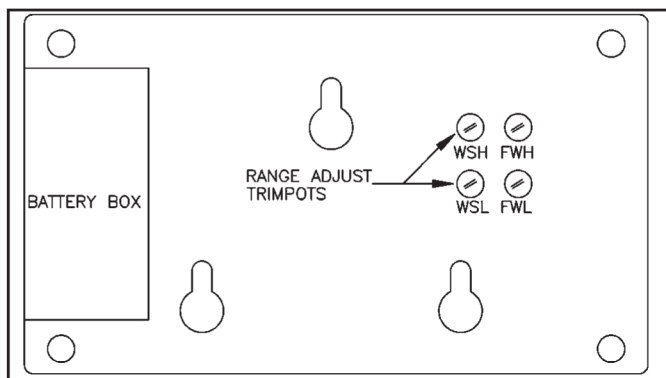

Figure 15. Back of the Combo Tester
- II. Orient tester so that it corresponds to Figure 15.